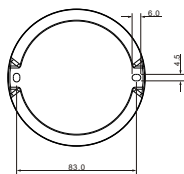

Figure 2
1. Install the wall support: Fix the wall support to the ceiling using screws (the size of the wall support is shown in Figure 2).